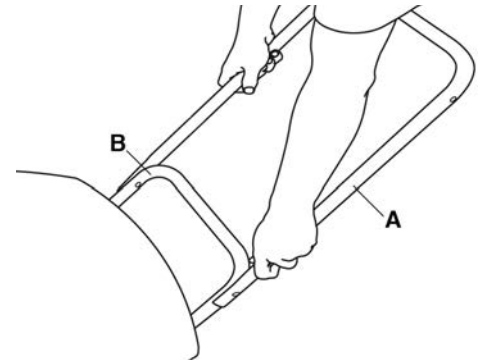

FIGURE 4
1. Hold the middle frame (A) Fig.4 so that the screw holes align with the holes on the lower frame (B).